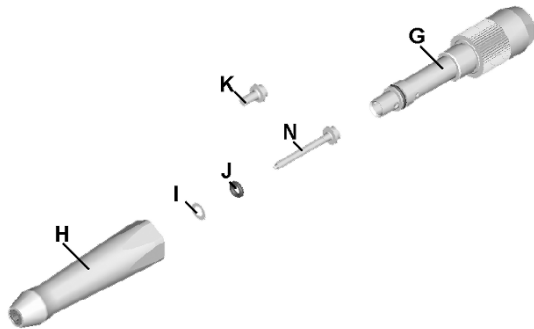

Fig. 4: Changing the writing utensil
- Unscrew the sleeve (H) and remove the plunger (K) from the control sleeve (G).
- Hold the valve housing with control sleeve (G) vertical and fit the writing utensil (N).
- Slide the O-ring (J) and washer (I) on the 3 mm shaft of the writing utensil (N).
- Screw the sleeve (H) on in a vertical position and tighten lightly (refer to Fig. 4)